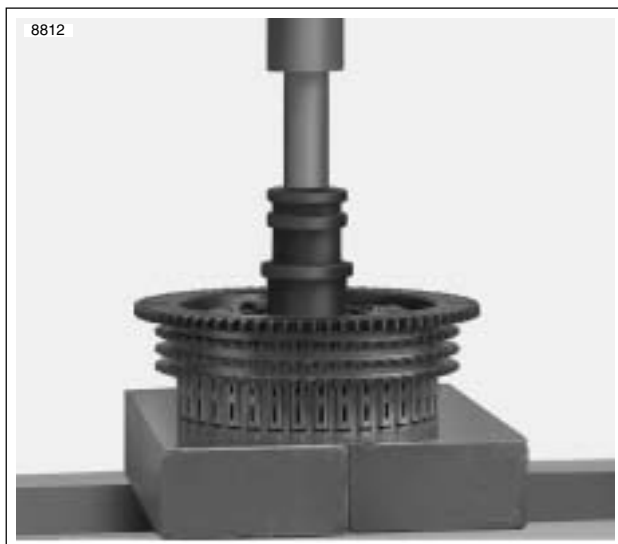

Figure 6-30. Removing Clutch Shell Needle Bearing
1. See Figure 6-30. Place clutch shell on support blocks with sprocket side facing up.
2. See Figure 6-30. Insert removal end of tool into bearing assembly and remove bearing from clutch shell.